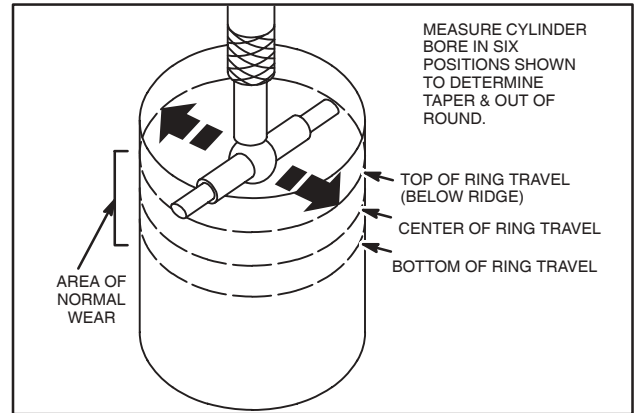

Fig. 3 – Checking Cylinder Bore
- a. Measure cylinder bore in 6 points at right angles as shown, Fig. 3.